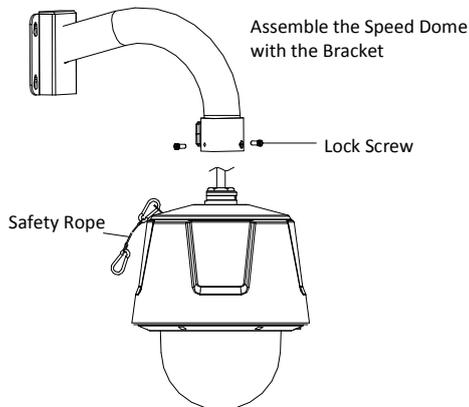

Figure 2-7 Assemble the Speed Dome with Bracket
- The bracket in Figure 2-7 is the recommended bracket for this series of speed dome, and a pendant adapter is required if any other bracket is selected. The dimension of pendant adapter is  $G1\frac{1}{2}$ .